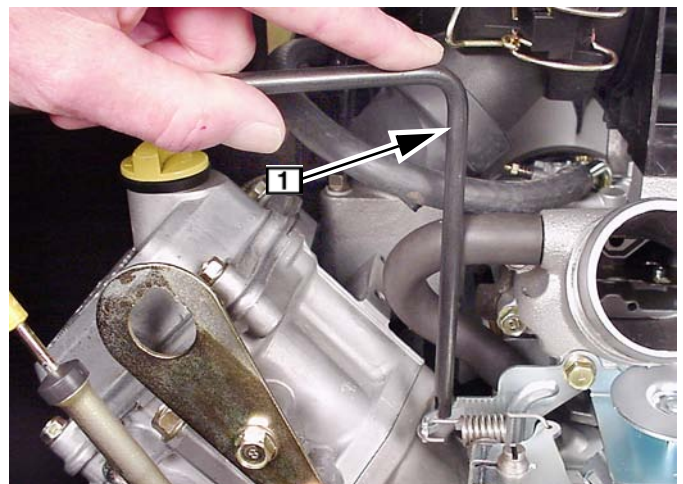

Fig. 189
8. If necessary, use tang bending Tool, #19480, **1** and bend governed idle tang to obtain 1850 RPM, Fig. 189.